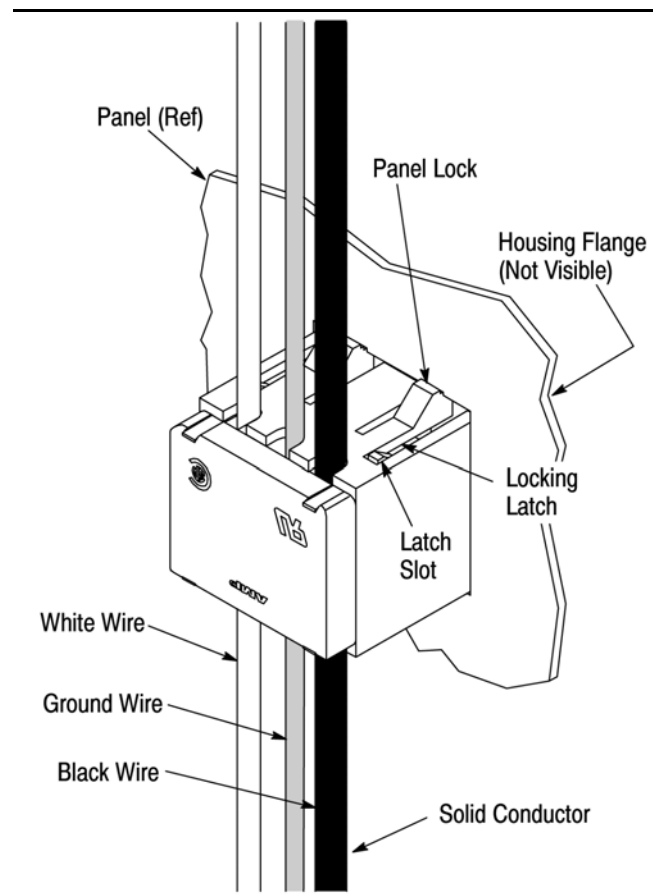

Figure 3
4. Align cover with receptacle block; then press cover straight into receptacle until it bottoms on block. See Figure 3.